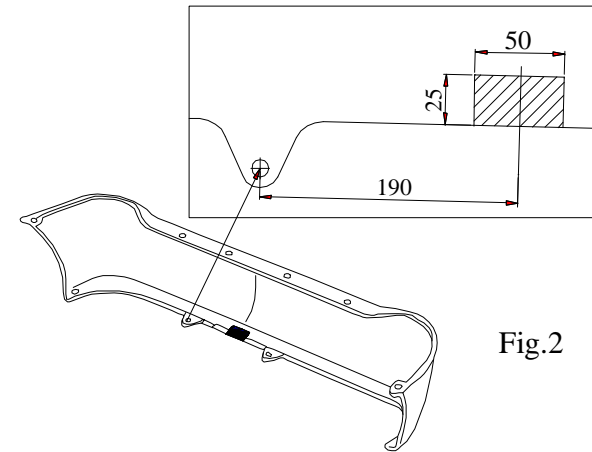

Fig.2
4. Reassemble the muffler and the bumper after cut out his fragment (see fig. 2).
5. Fix tow-ball (pos. 2) using bolts M12x70mm (pos. 5) from accessories.
6. Fix the socket plate (pos. 3) as shown on the drawing.